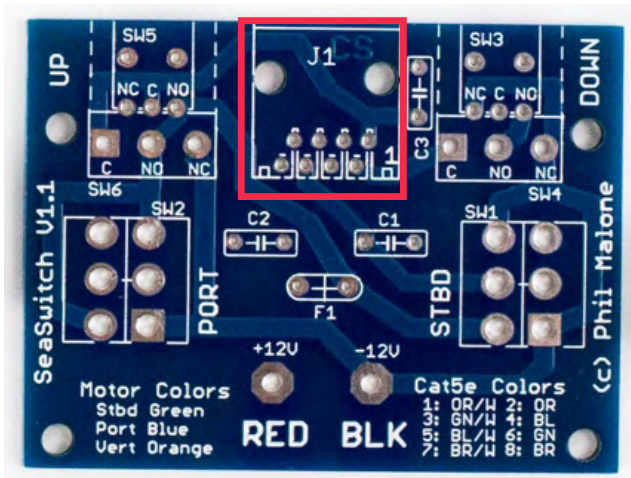

Figure 18
- Insert the RJ45 connector jack through location J1 on the component side of the PCB (Figure 18 & 19 on next page). Press firmly on the jack to snap it into place until it is flush with the board.